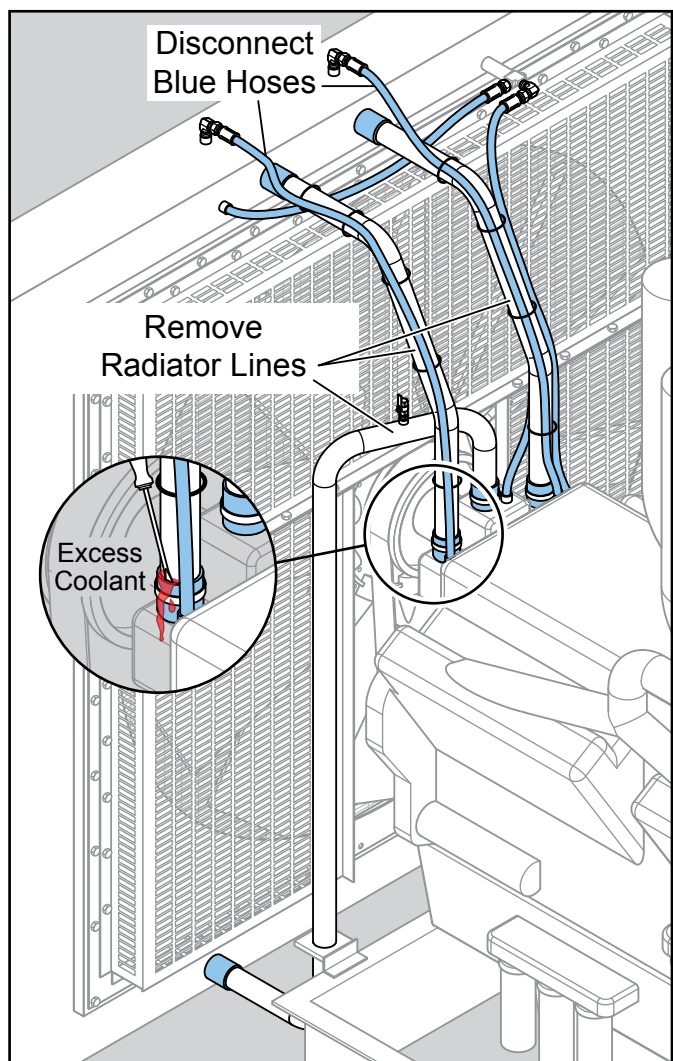

Figure 4. Removing Radiator Lines
6. Cut off tie wraps holding blue hoses against the radiator lines and disconnect blue hoses from radiator. See Figure 4.
7. Loosen radiator line clamps with air ratchet and watch out for coolant coming out of the lines. Have bucket and rags ready to catch spills. Loosen wraps with a screwdriver to get out any excess coolant. Wiggle each end until they become loose and remove. Repeat for the other 2 radiator lines. See Figure 4.